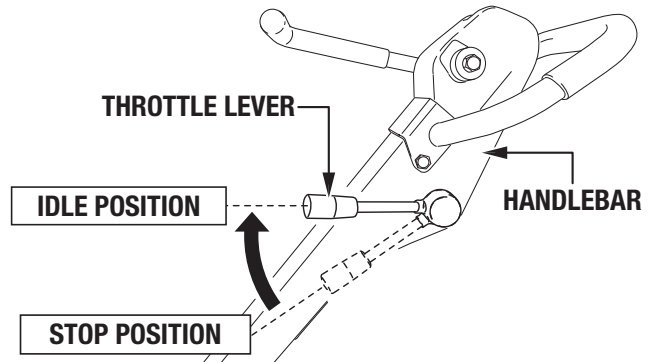

Figure 59. Throttle Lever (IDLE)
- Move the throttle lever to the **IDLE** position (Figure 59).